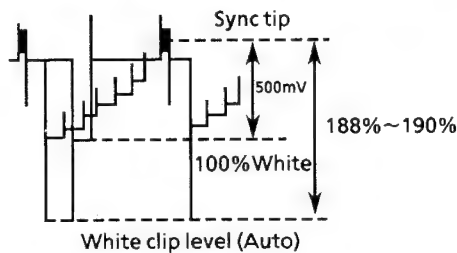

Figure 2-5
- (1) Connect an Oscilloscope to TP201.
- (2) Select channel "0" (A/V input mode) and feed the color bar signal to the VIDEO IN jack.
- (3) Adjust R219 so that the signal amplitude between sync tip and 100% white is 500mV as shown in Figure 2-5.